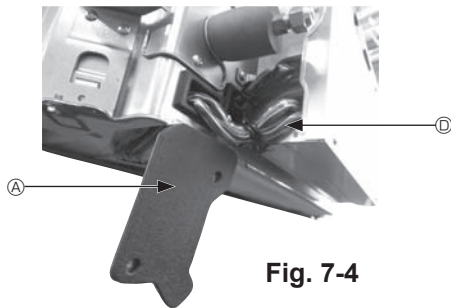

Fig. 7-4
- ① Remove the two screws securing the wire cover of the main unit, and then open the cover.
- ② Route the wires of the i-See sensor and signal receiver through the wire inlets in the electric component box as shown in the diagram and around the bushings on the side of the main unit. (Fig. 7-4)